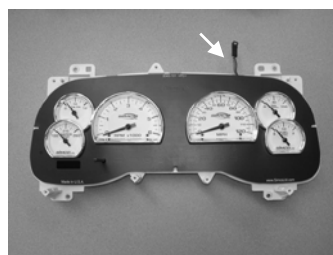

Figure 7
6. Carefully place the new Instrument Cluster module into the circuit board & housing assembly. Make sure to keep the lamp connector outside of the housing. (See figure 7) The Gauge Pins must be aligned with the holes in the circuit board or the module will not fit.